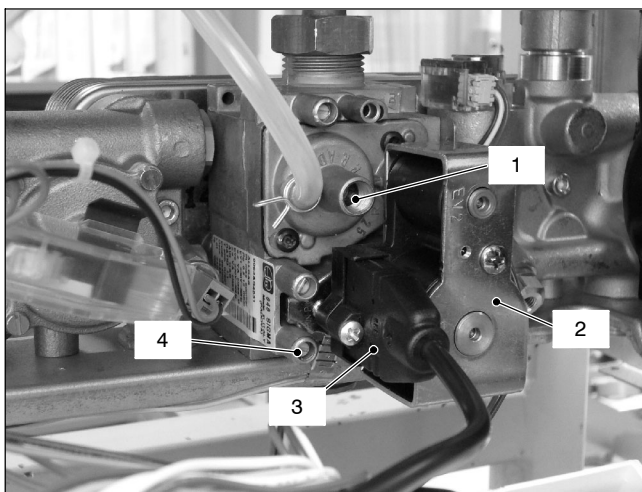

Fig. 11.2
### 11.2 Description of the parts (Fig. 11.2)
- 3 Loosen the internal screw on the Inlet Pressure Test Point 4 (Fig. 11.2) of the Gas valve and connect a pressure gauge using a suitable hose.
- 10 Disconnect the pressure gauge and close the Inlet Pressure Test Point 4 (Fig. 11.2).
- 21 Read the CO2 % value. It should be between 8,8 and 9,0 %. To adjust the CO2 % value remove the brass plug by unscrewing it and rotate the plastic screw 1 (Fig. 11.2) (by rotating it clockwise the CO2 % increases).
- 27 After adjustment fit the protective brass plug (1, Fig. 11.2).
- 2 Disconnect the electrical connector 3 (Fig. 11.2).
- 8 Remove the brass plug and turn the plastic screw 1 (Fig. 11.2) fully clockwise until it stops. Do not overtight.